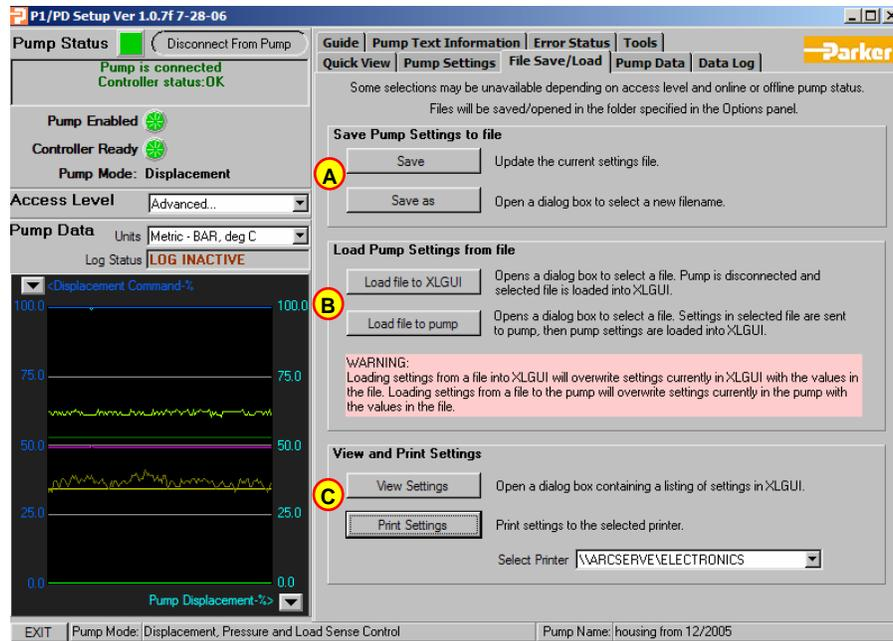

Figure 6: File Save/Load screen of P1/PD GUI
16. Figure 6, shows the “File Save/Load” screen where the different signals can be turned on and off for display purposes and logging purposes.